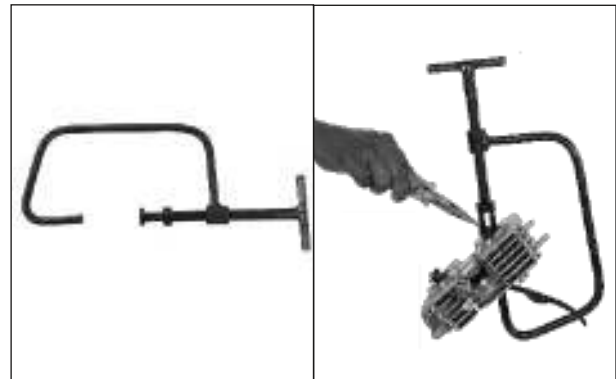

Fig. 1.21
- Loosen and take out the special tool.(Fig. 1.21)